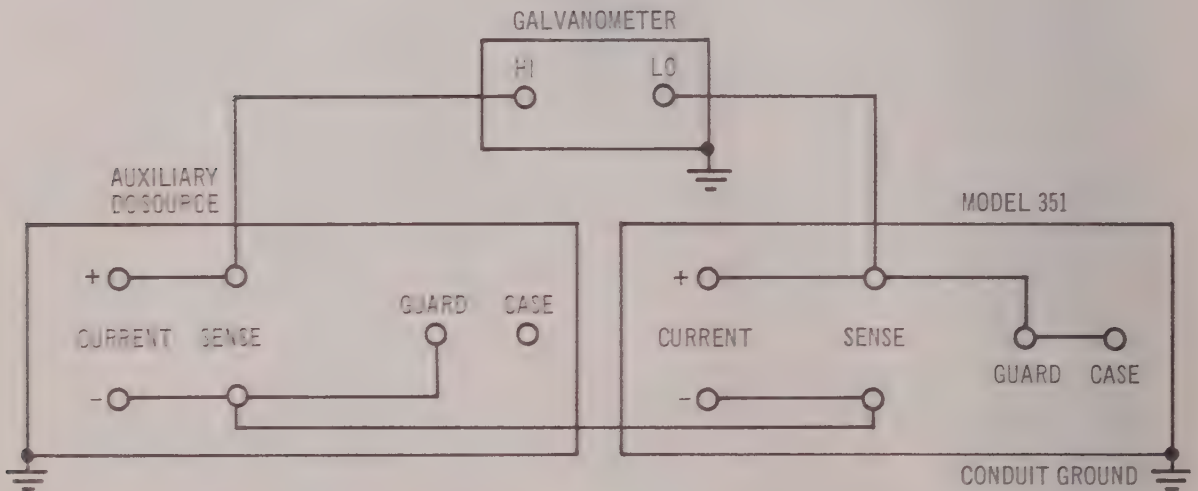

Figure 4-4. Linearity-Adjustment Calibration Setup
1. Connect instrument to galvanometer and auxiliary supply as in Figure 4-4, which shows connections when auxiliary supply is another Model 351.